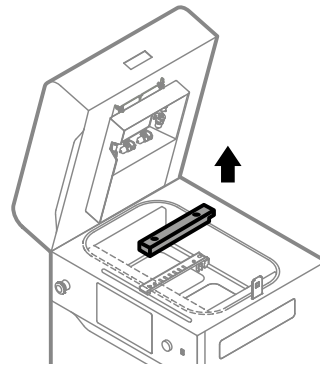

Fig. 13.94 Remove the Recoater black cover.
8. Gently remove the black cover from Recoater (fig. 13.94).